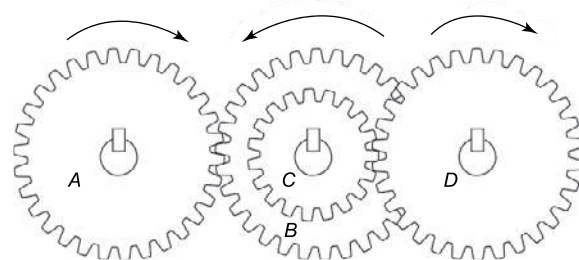

Figure 19.6
A **compound gear train** is shown in Figure 19.6, in which gear wheels *B* and *C* are fixed to the same shaft and hence  $N_B = N_C$
**Problem 8.** A compound gear train similar to that shown in Figure 19.6 consists of a driver gear *A*, having 40 teeth, engaging with gear *B*, having 160 teeth. Attached to the same shaft as *B*, gear *C* has 48 teeth and meshes with gear *D* on the output shaft, having 96 teeth. Determine (a) the movement ratio of this gear system and (b) the efficiency when the force ratio is 6.
- A compound gear train is as shown in Figure 19.6. The movement ratio is 6 and the numbers of teeth on gears *A*, *C* and *D* are 25, 100 and 60, respectively. Determine the number of teeth on gear *B* and the force ratio when the efficiency is 60%. [250, 3.6]